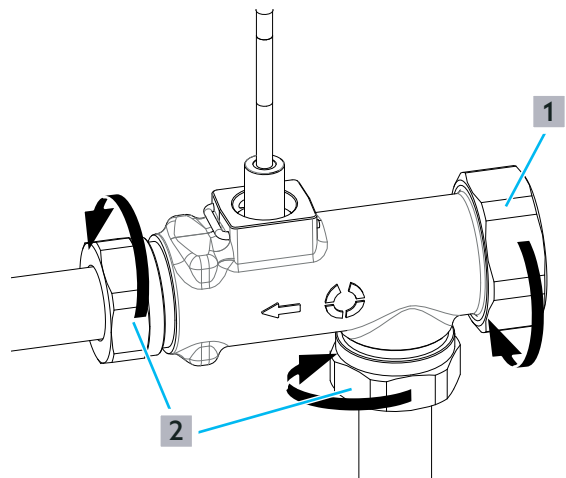

Fig. 22: Removing the volume flow sensor
- 6 Unscrew the sealing cap ((1) in Fig. 22 on page 30) for the circulation connection.
- 7 Loosen the union nuts (2) of the volume flow sensor and remove the volume flow sensor from the pipes.